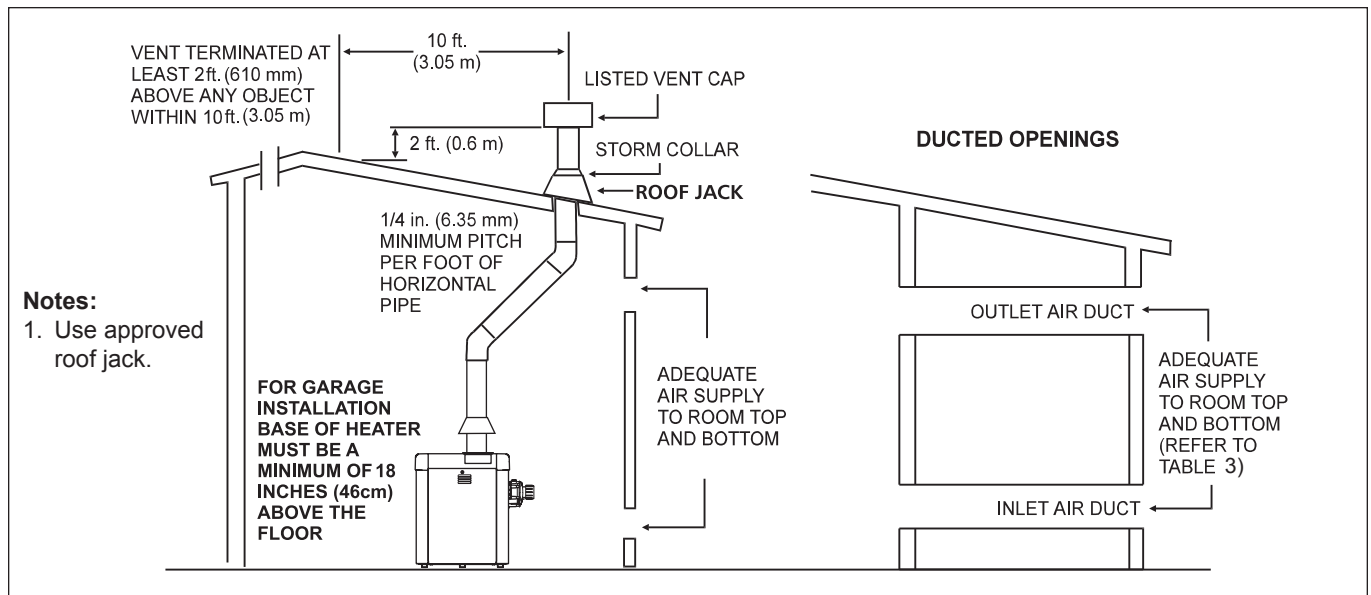

Figure 7. Indoor Installation Venting (USA), or Outdoor Shelter (Canada)
In general, these requirements specify that the room in which a heater is installed should be provided with two (2) permanent air supply openings; one (1) within 12 inches (305 mm) of the ceiling, the other within 12 inches (305 mm) of the floor. All indoor installations must have openings to outside air for combustion, ventilation, and dilution of flue gases from inside the building. See Figure 7 and Table 3. Zodiac Pool Systems, Inc., does not recommend indoor installations that do not provide combustion air from outside the building.